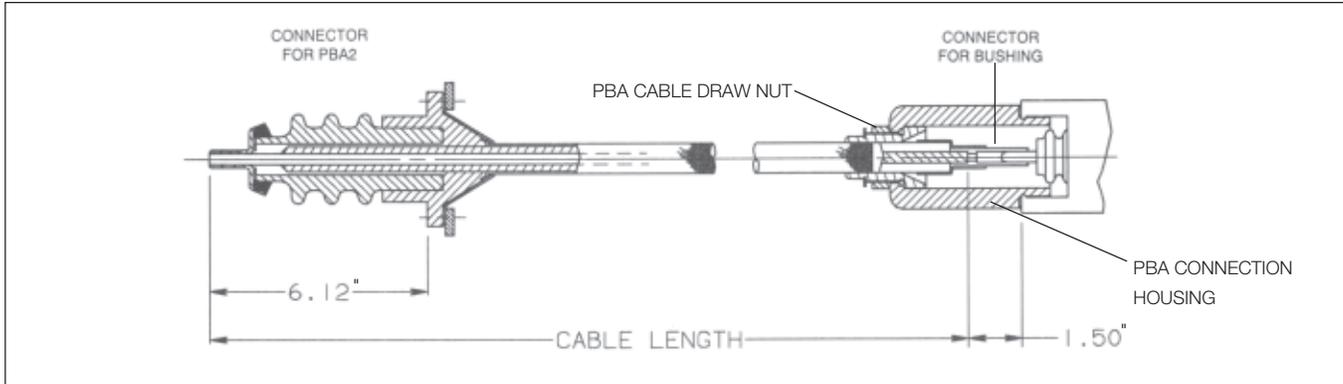

Figure 2: Cable Lead-in Assembly
Standardized mounting dimensions permit the interchangeability with most standard ABB or Westinghouse units sold since the middle of 1934. The standard device is electrically usable for most bushings having capacitance taps per IEEE C57.19.01-2000 Type A: Normally Grounded having the tap on the second metallic layer above ground potential. This includes substantially all Westinghouse bushings manufactured since the middle of 1935 and having a voltage rating of 115kV or higher. Cable lengths (see Fig. 2) are also standard for circuit breakers, but special lengths are general for transformers. End fittings of cables are common for all.
- d.** The primary connection is made by installing the high voltage cable assembly of Fig. 2. This is done with the bushing grounded. The cable is installed by removing the mounting flange cover from the side of the potential device housing and removing the cover from the tap receptacle on the bushing flange. The tap receptacle on the bushings of recent manufacture may be found filled with approximately one pint of transformer oil, which will drain out when the cover is removed. Discharge the bushing tap layer by touching the socket contact with a grounded wire.